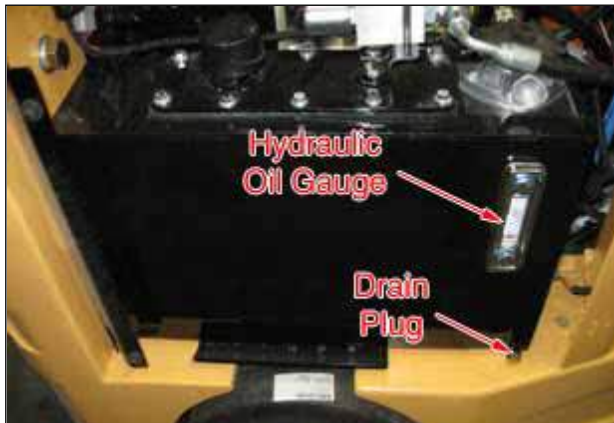

Figure 2-6 Oil Gauge
6. Check the fluid level gauge on the right hand side of the tank. See Figure 2-6.